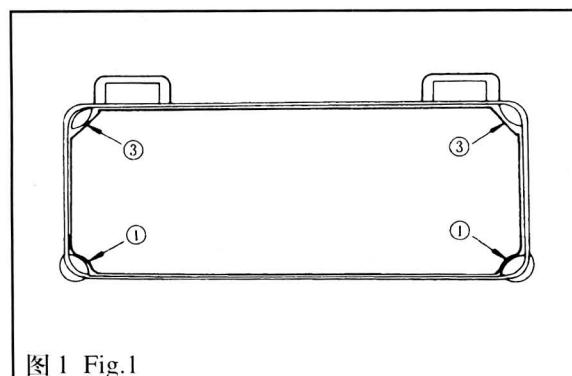
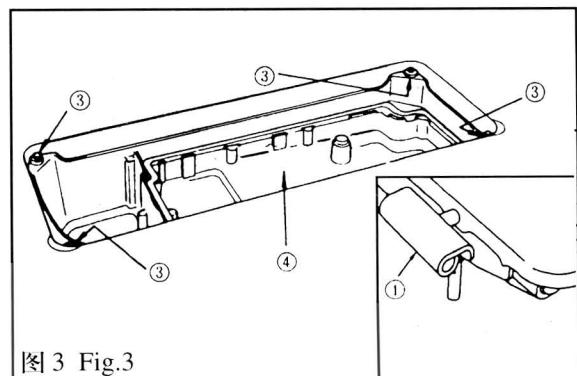
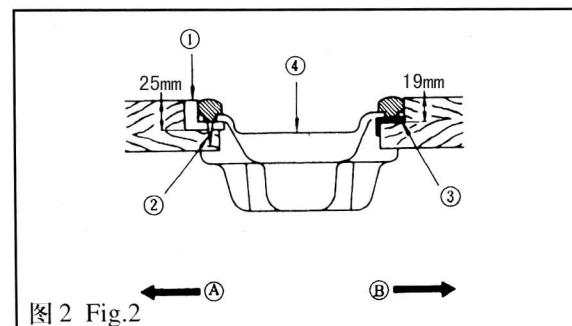
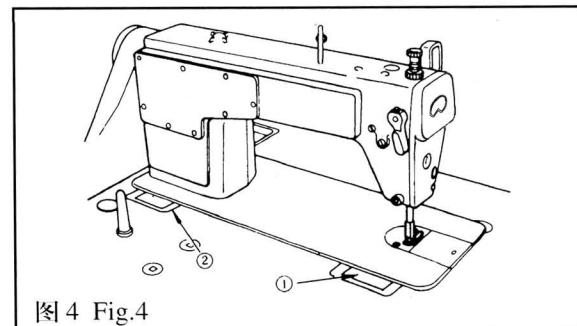

图1 Fig.1
图3 Fig.3
图2 Fig.2
图4 Fig.4
## 1. 机器的安装(图1、图2、图3、图4)
### 1. INSTALLATION (Fig.1, Fig.2, Fig.3, Fig.4)
- 2) 如图所示, 将两只油盘支座①用油盘座钉②固定在A一边(朝操作者一边), 将两只油盘座垫③用油盘座钉②固定在B一边(用机头连接钩接合一边), 最后把油盘④放在其上。(图1、图2)
- 3) 将机头连接钩①放入底板孔内, 与台板的机头连接钩座②相嵌合, 再将机头放到四只角的机头座垫③上。(图3、图4)
- 2) Fix two rubber seats ① on side A (operator's side) using nails ② as illustrated above. Fix two cushion seats ③ on side B (hinged side) using nails ② . Then place oil pan ④ on the fixed seats. (Fig.1, Fig.2)
- 3) Fit hinge ① into the opening in the machine bed, and fit the machine head to table rubber hinge ② before placing the machine head on cushions ③ on the four corners. (Fig.3, Fig.4)